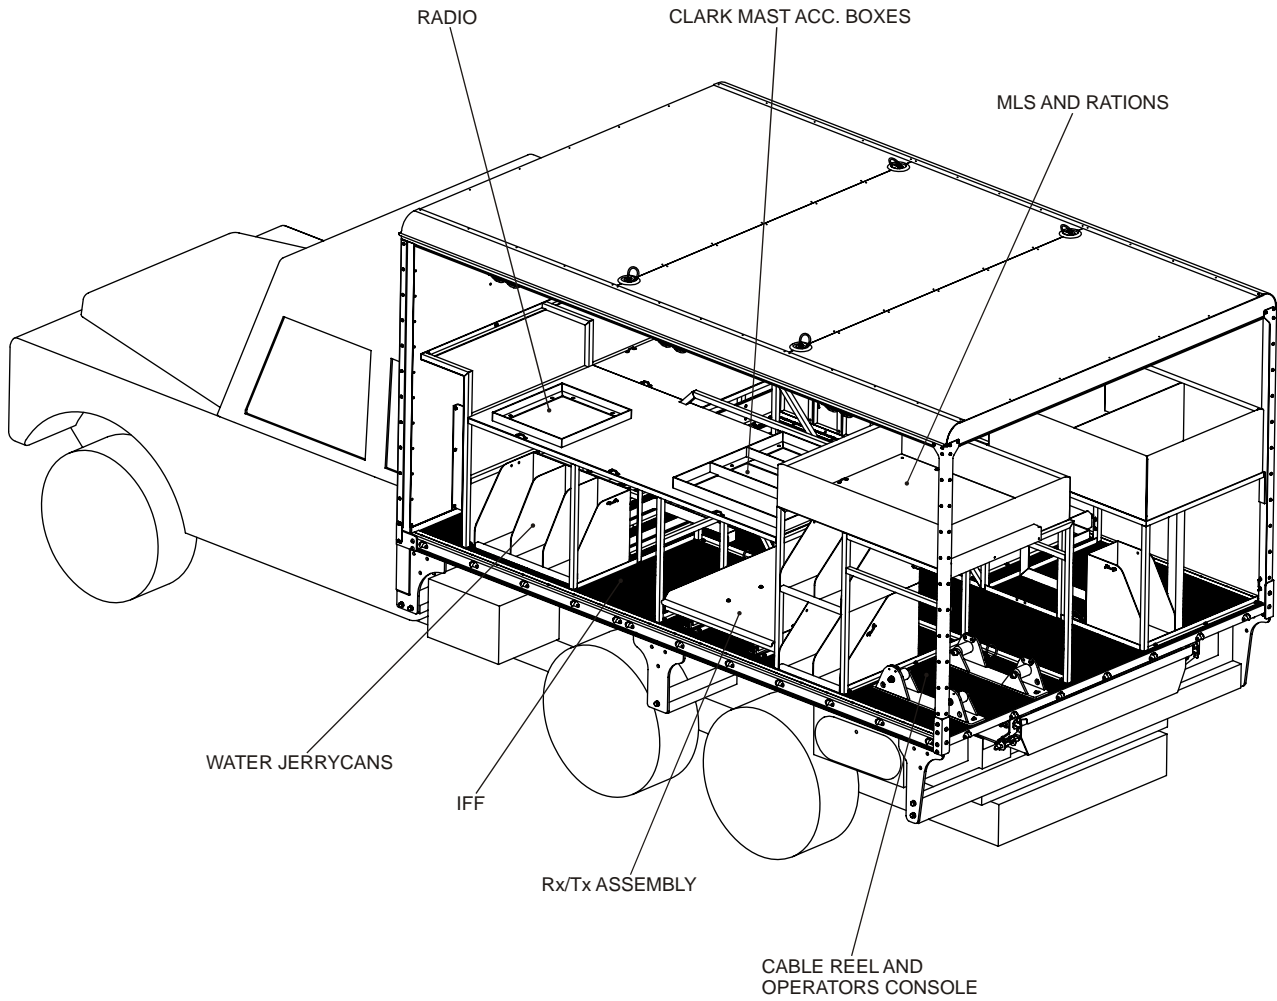

Figure 7 TSV Left-hand Side Module
9. **Equipment Stowed in the TSV Stowage Rack System Assembly.** Figures 7 and 8 illustrate the stowage on the passenger side module and the driver's side module respectively. The following lists all equipment carried in the two modules: